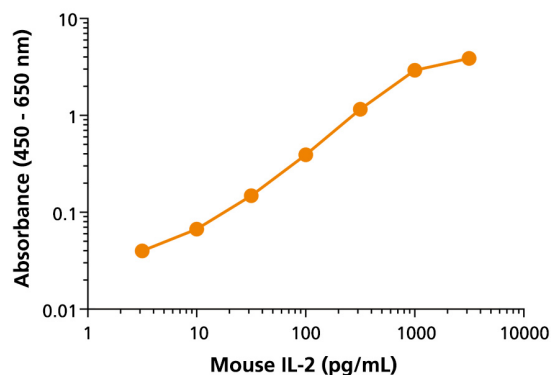

Figure 2. Representative Standard Curve
17. Calculate the average absorbance of each sample from the duplicate values. Subtract the mean absorbance value of the blank from the standard, the background control, and the sample values prior to generating the standard curve and determining the cytokine concentrations in the samples. A representative standard curve is shown in Figure 2.